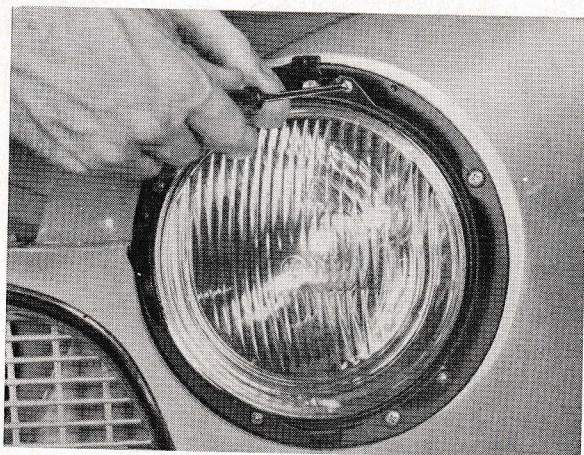

Fig. 66. Removing the retaining ring.
2. Slacken the screws for the headlight insert retaining ring a few turns, see Fig. 66. Turn the retainer until the lips are free of the screws and lift out the retainer and insert with bulb holder.